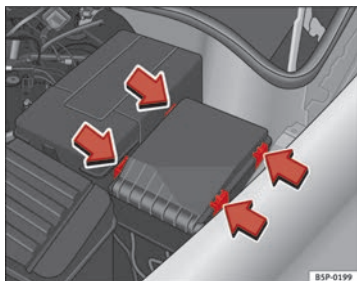

Fig. 177 Fuse box cover in engine compartment
- Prise off the fuse cover in the engine compartment by pressing the tabs towards the centre of the cover ⇒ fig. 177.